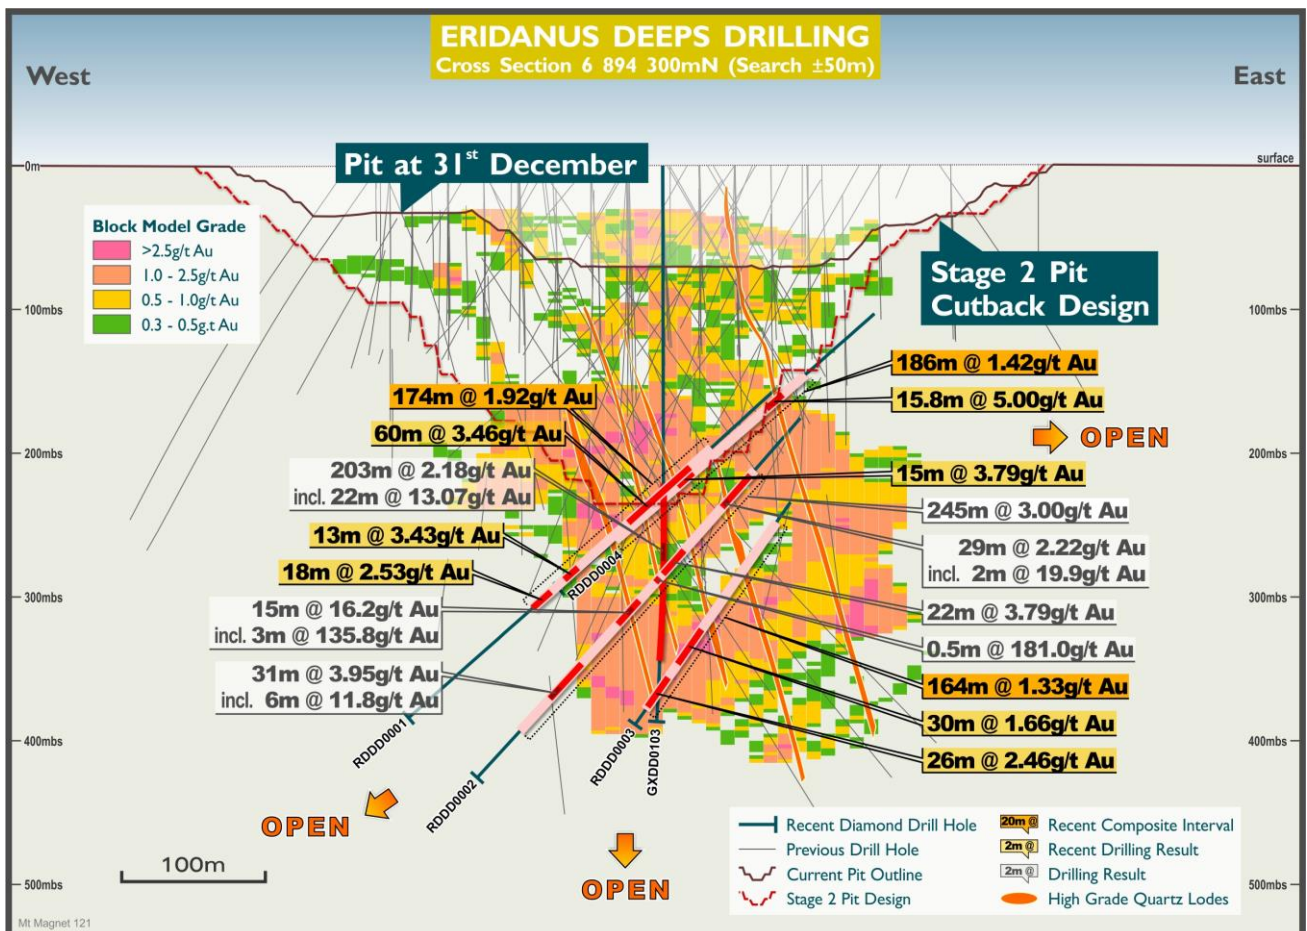

Figure 2 - Eridanus W-E long section 6894300N – recent drill results, current & Stage 2 Cutback design and 2019 resource model
- Results received from first four diamond holes, below the current planned open pit (refer Figure 2), included: